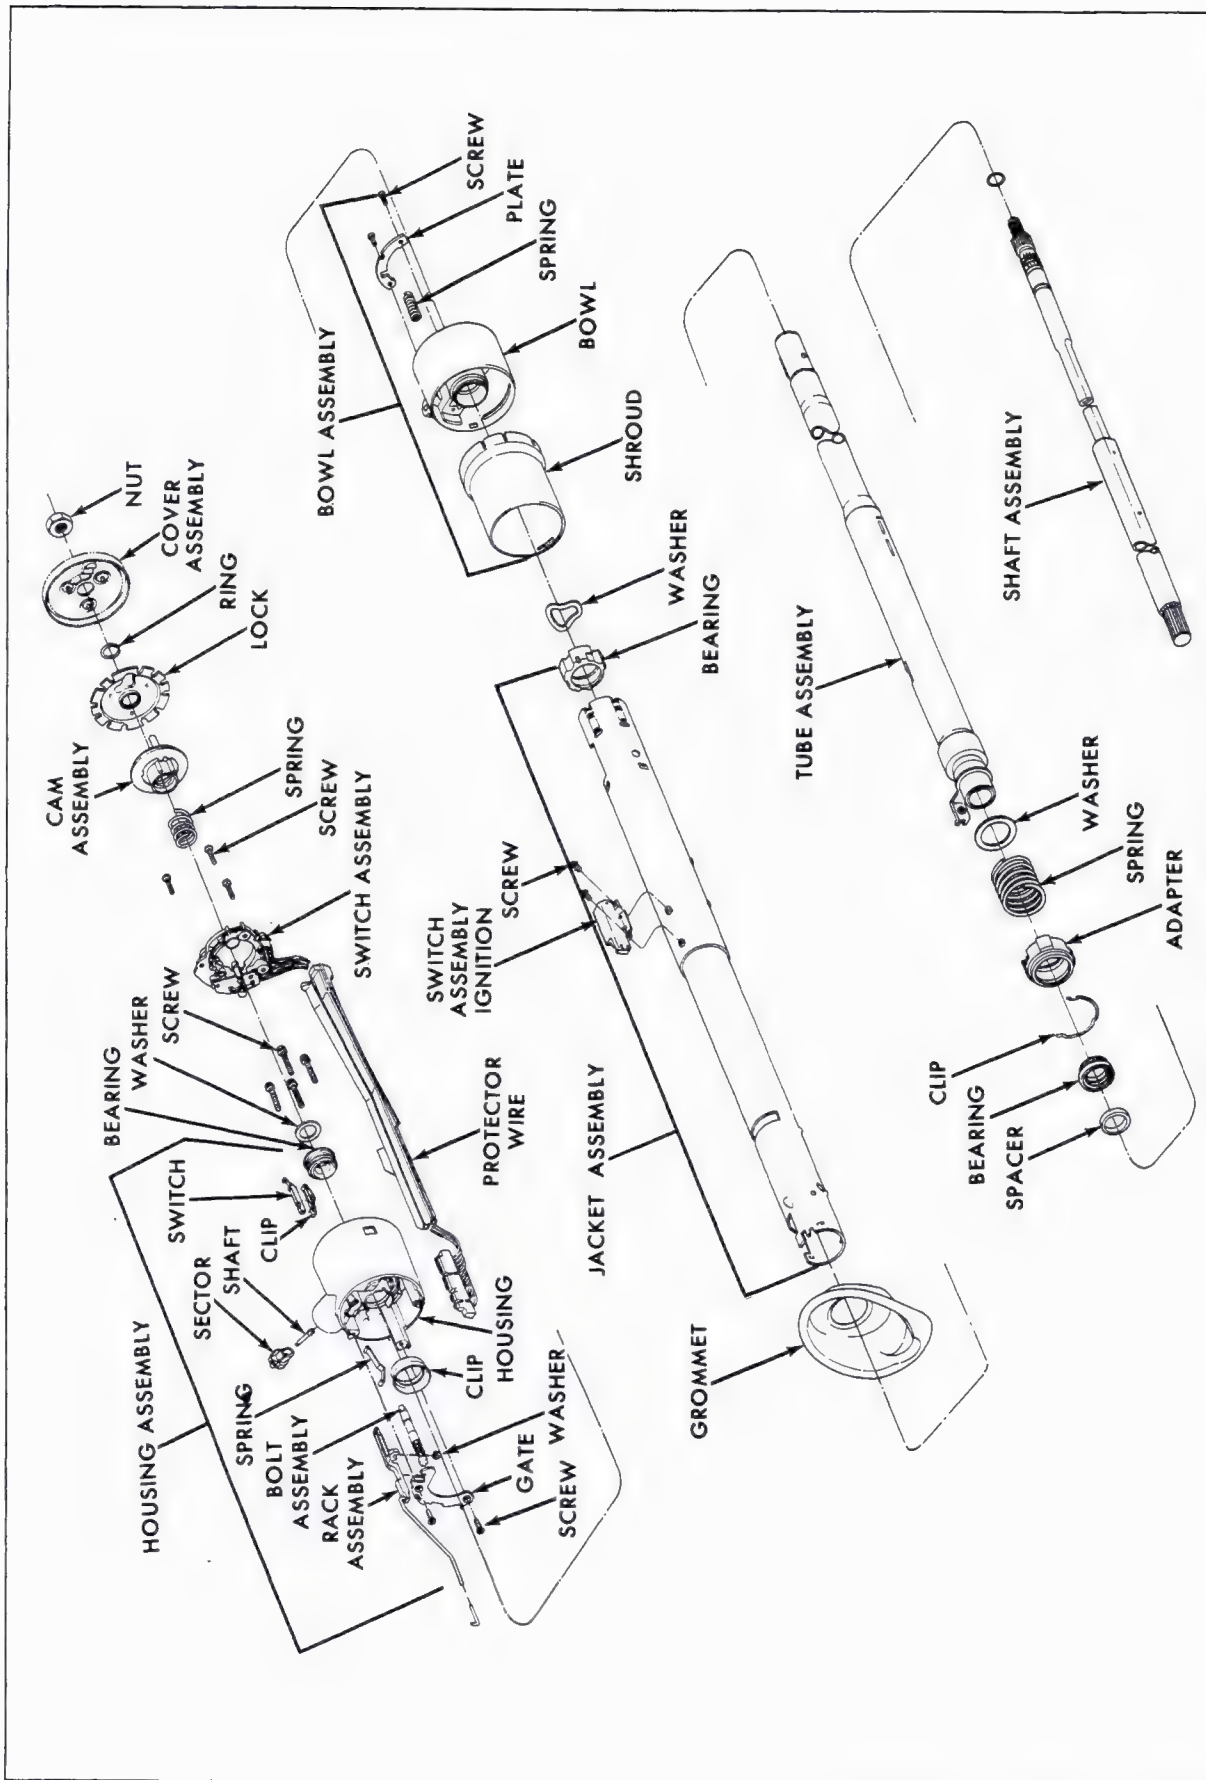

Fig. 9-42 Steering Column Disassembled
20. Standard Steering Column Disassembly, Inspection and Assembly (Fig. 9-42)
b. Upper Housing Disassembly (Fig. 9-42) (On Bench)
f. Upper Housing Assembly (Fig. 9-42) (On Bench)